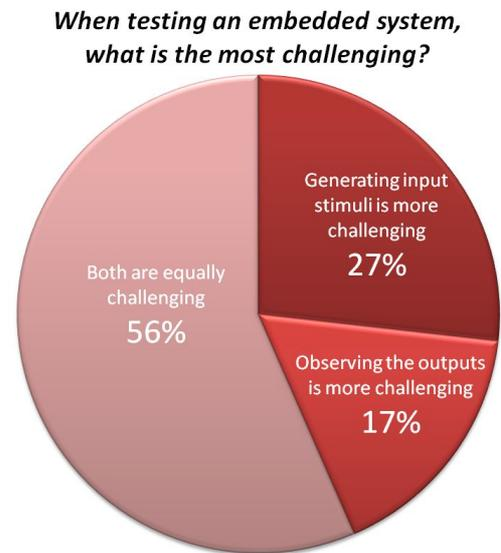

Figure 2: 2009 survey results (excerpt 2)
- ▶ Over 83% of the total number of respondents declare that stimulus generation is at least **'as challenging as system response observation'**. Figures are sensibly the same whether it concerns IP, FPGA, ASIC, SoC, or full embedded system testing (see figure 2, which presents an average view).